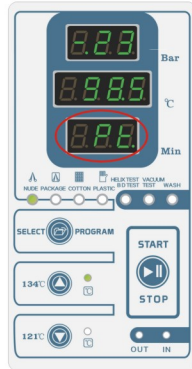

Fig. 5.4-9
(13)***Balance atmospheric and print sterilization record stage:***When the drying work into the last minute, the vacuum pump be stopped.the control system will open the air solenoid valve(Ev3) for balance between the pressure in chamber and atmospheric,so that after the end of sterilization,you can easily open the door.when the “operation display window” show “Pt” ,it means the control system has transport sterilization data to external mini-printer and Print.(Fig.5.4-9)